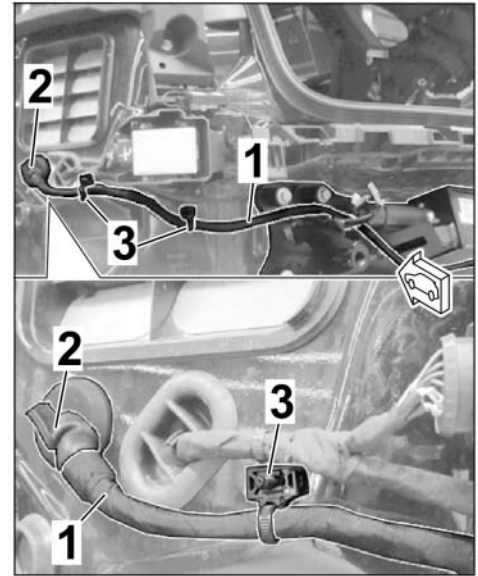

Figure 8
2.2.3 Install tie-wraps for wire harness (2 x) on threaded bolts on the outside of the vehicle (⇒ Figure 8).